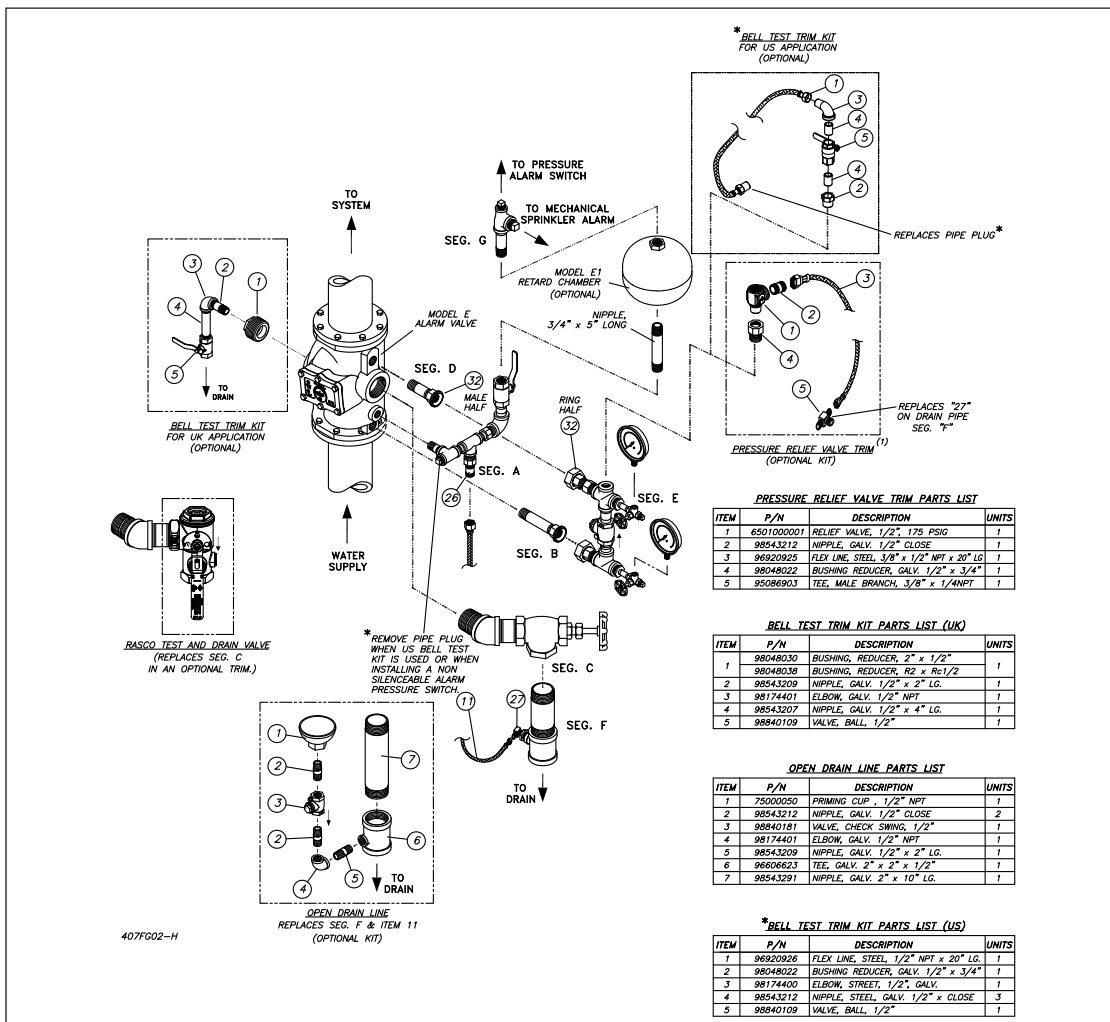

Fig. 2—Model E 8" Flanged Inlet and Outlet Alarm Valve Variable Pressure Open Drain Trim
The E3 trim sets for the Reliable Model E Alarm Valve (Fig. 2) are arranged for rapid, easy and compact attachment, and serves as connection points to Reliable Alarm and other devices. The trim also serves as means for testing the operation of the alarm devices without causing the system to operate. Three basic Model E-3 trim sets are available for use with the Model E Alarm Valve:
Optional Drain Line Kit required (Figs. 2, 3 & 5). This trim set is used where water supply pressures vary. An open drip cup is provided to drain the retard chamber and the mechanical sprinkler alarm line. This drain connection should be piped separately from the 2" main drain.
All wet pipe systems being installed in accordance with the 2010 edition (or newer) of NFPA 13 are required to have a pressure relief valve. For convenience, an optional pressure relief valve kit (illustrated in Fig. 2) is available.
• Variable Pressure Vertical Installation (Fig. 2)
- **Constant Pressure Vertical Installation (Figs. 2, 3 & 7)**